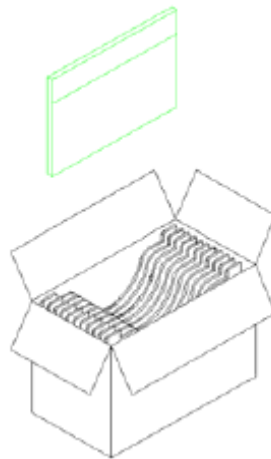

Fig 2
Step 2 Place the module with PCBA under then put it falls horizontally into the carton all 10pcs as fig2.